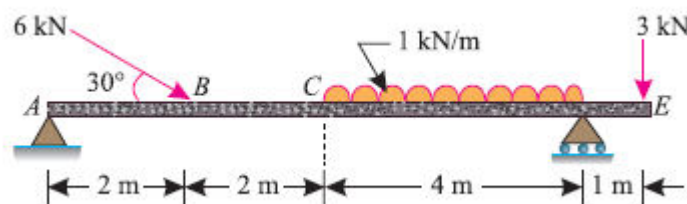

Fig.5
8. A beam ABCDE hinged at A and supported on rollers at D, is loaded as shown in Fig.5. Find the reactions at A and D. [L4][12 M]